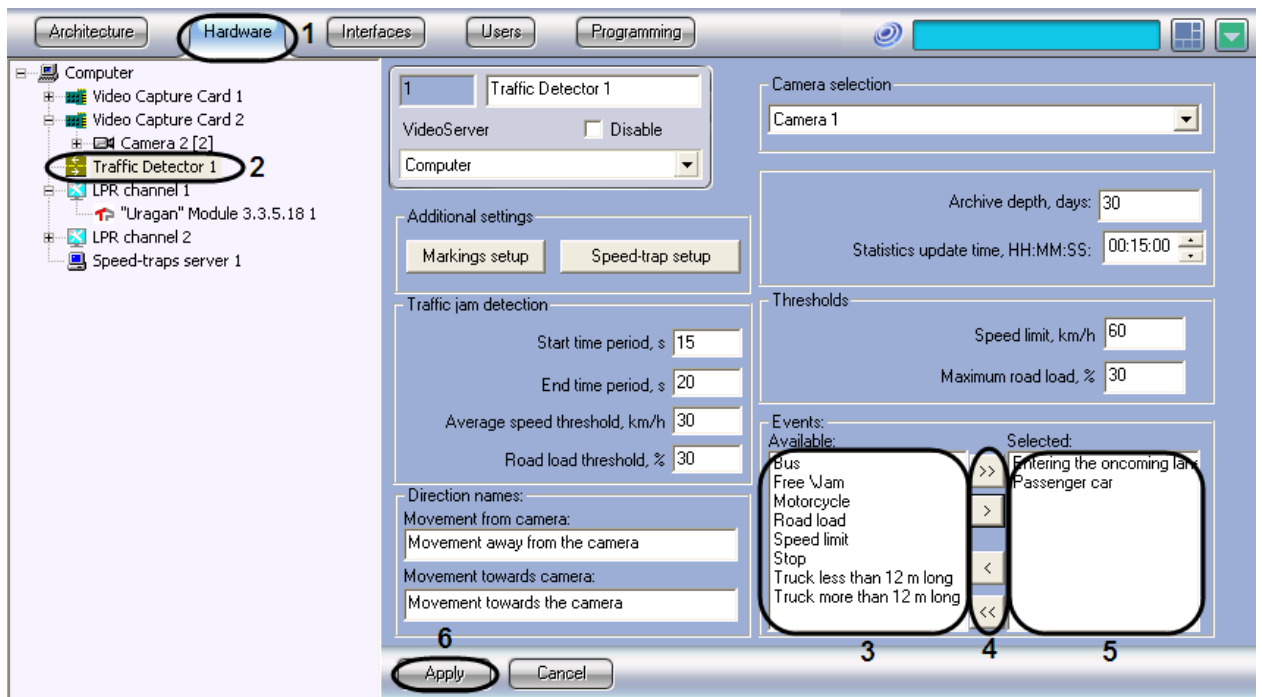

Fig. 7.4-20 Selecting the events to be generated from the list of all available events
2. In the object tree on the left side of the Hardware tab, select the Traffic Detector object representing the Traffic Detector module to be set up. The settings panel of the selected object will open on the right side of the window (see Fig. 7.4-20).